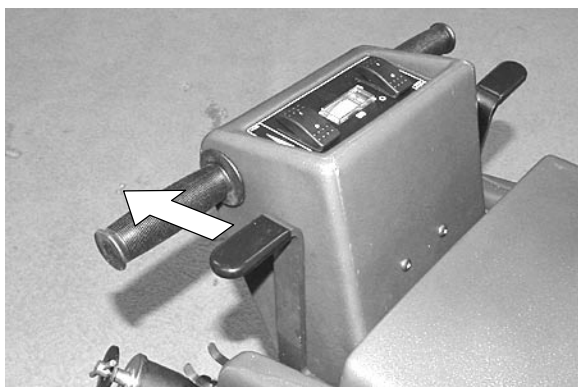

FIG. 8
2. Pull solution flow lever completely back to shut off solution flow (Figure 8).